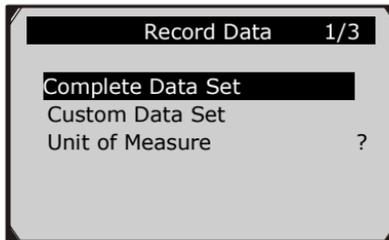

Figure 5.20
- 1) To record customised data, use the **UP/DOWN** scroll button to select **Custom Data Set** from **Record Data** menu and press the **OK** button. (Figure 5.20)